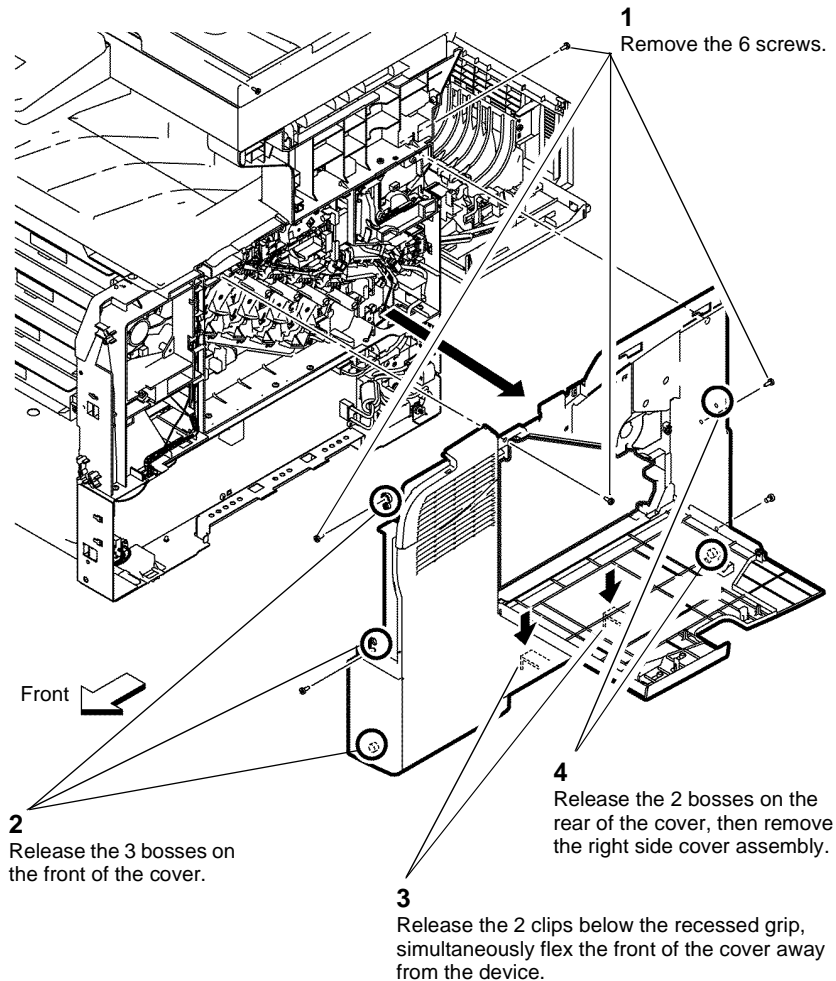

Figure 1 Right side cover C405
- Remove the right side cover assembly, Figure 1.